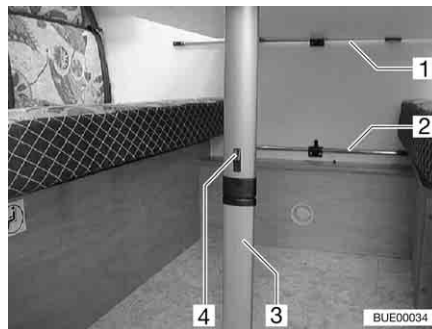

Fig. 68 Suspension table with folding leg
- Move the locking device (Fig. 68,4) toward the table-top.
- Fold the lower section of the foot (Fig. 68,3) under by 90°.
- Detach the suspension table from the upper attachment rail (Fig. 68,1).
- Attach the suspension table to the lower attachment rail (Fig. 68,2) and rest it onto the table leg hinge.